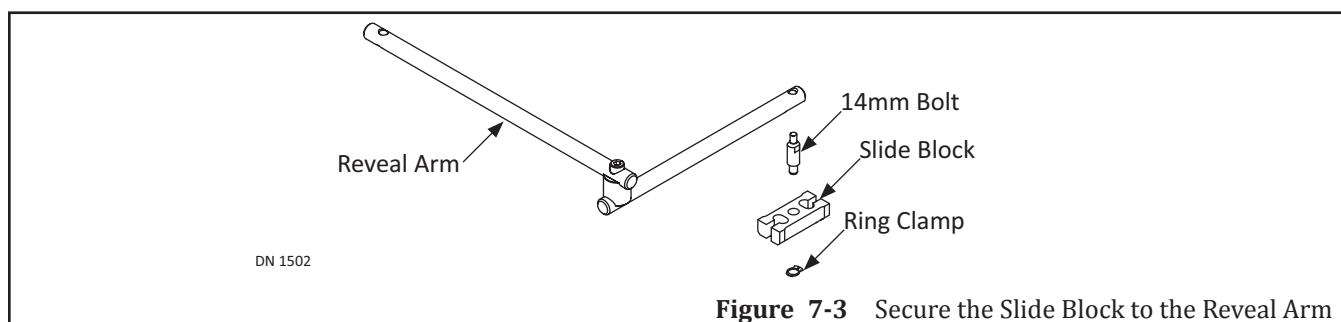

Figure 7-3 Secure the Slide Block to the Reveal Arm
1. Take out contents shipped within the Standard Arm Assembly box. Please see Figure 7-3.
4. Some Units are shipped with a 38mm Bolt. Due to a redesign of the Reveal Arm, only (1) 14mm Bolt is used to secure the Slide Block. Discard the 38mm Bolt (if shipped).
7. Slide (1) 14mm Bolt through the Slide Block and the Reveal Arm.
8. Go under the Slide Block. Secure the 14mm Bolt to the Reveal Arm with (1) Ring Clamp.